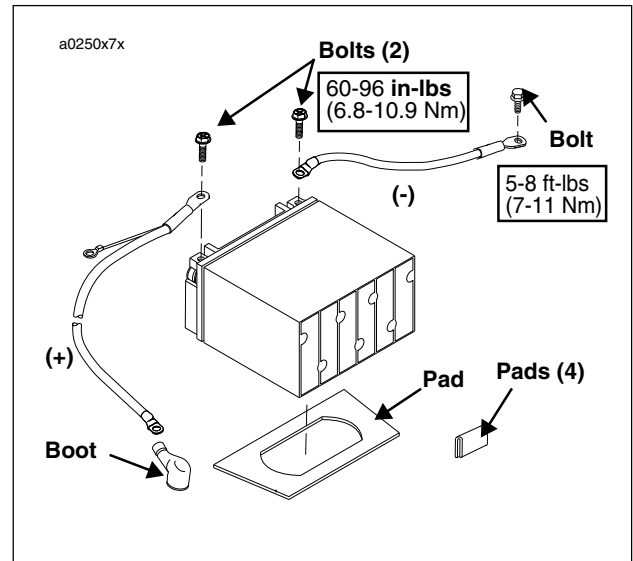

Figure 1-1. Battery Installation
2. See Figure 1-1. Insert bolt through battery positive cable (red) into threaded hole of battery positive (+) terminal. Tighten bolt to 60-96 in-lbs (6.8-10.9 Nm).
3. See Figure 1-1. Insert bolt through battery negative cable (black) into threaded hole of battery negative (-) terminal. Tighten bolt to 60-96 in-lbs (6.8-10.9 Nm).